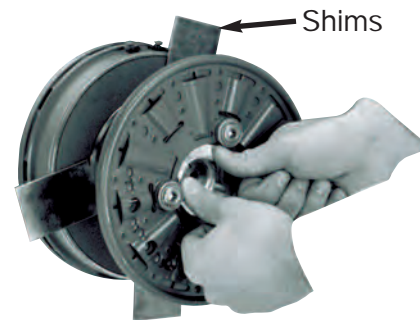

Figure 16 - Armature installation with shims in place.
Step 7: **Make sure no power is applied to the brake.** Place three steel shims 120 degrees apart on the magnet as shown in Figure 16.
Slip the armature/hub assembly onto the transmission shaft until the armature hub bottoms out on the shims. (See Figure 16) The gap between the armature & magnet must be no more than .125 inch. If the gap is larger than .125 inch, push on the hub to achieve .125 inch gap.